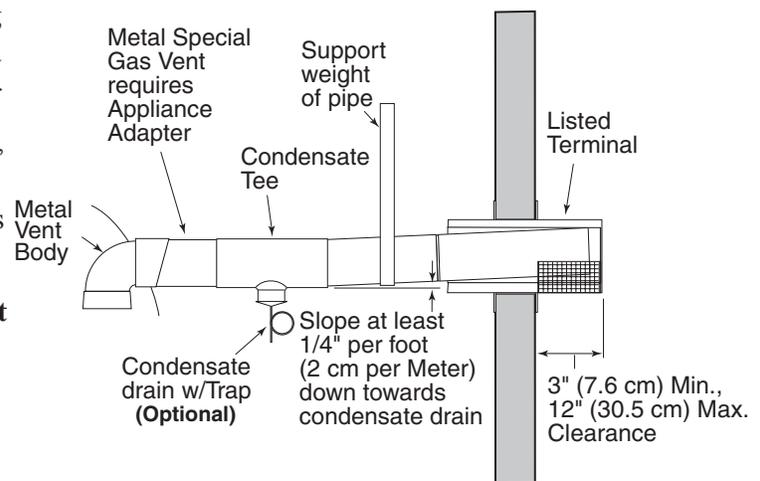

Figure 22.
- at least 3” and at most 12” out from the wall (see **Figure 22**), following the vent manufacturer’s instructions